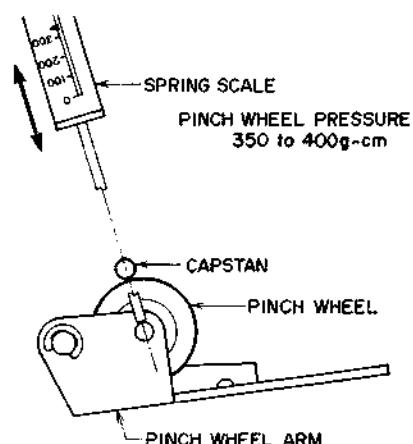

Fig. 8
7. PINCH WHEEL PRESSURE MEASURING METHOD (Refer to Fig. 8)
As shown in Fig. 8, at playback mode, push the pinch wheel arm toward shaft with a spring scale. Return gently and take a reading of the spring scale indication when the pinch wheel contacts the capstan.